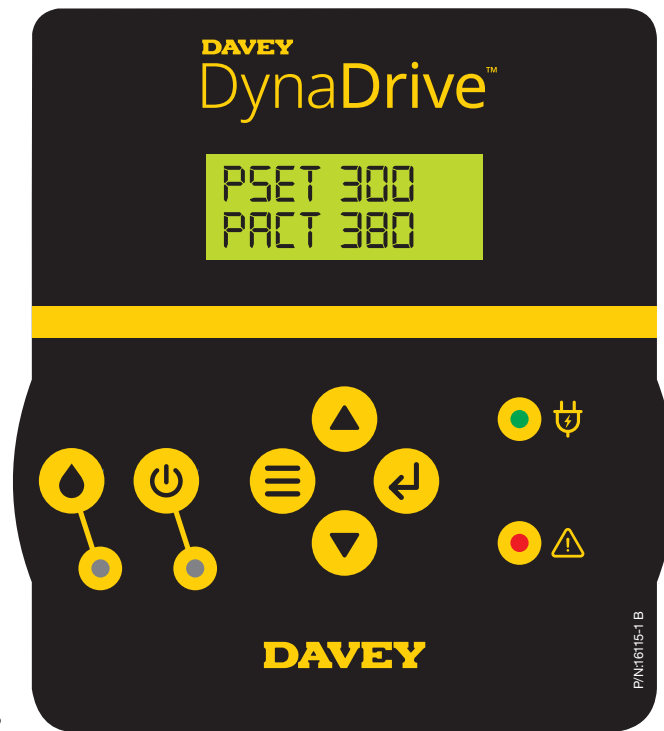

Figure 6.12
- Press  **Enter button**, or  **Menu button** to return to the **HOME SCREEN**, see figure 6.12;